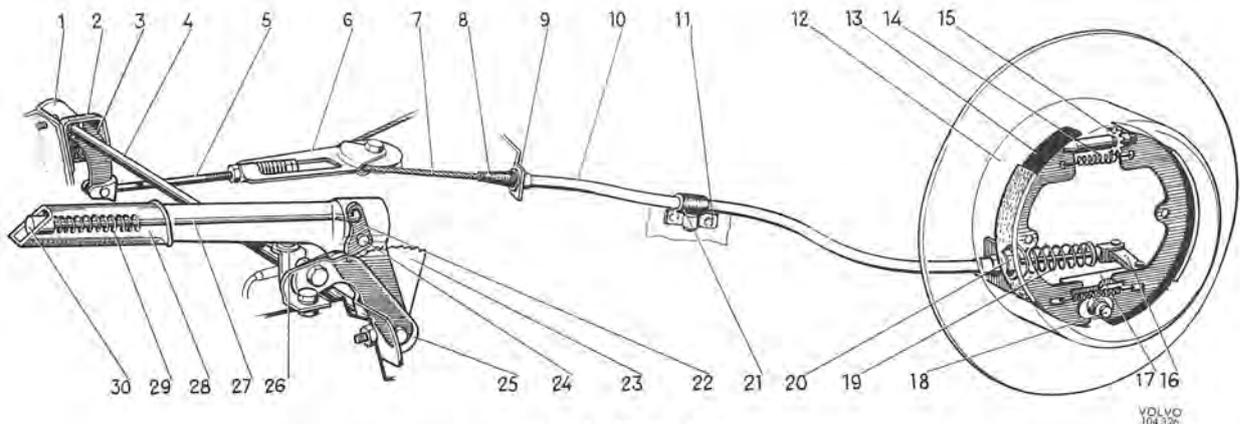

Fig. 5-78. Parking brake
The construction of the parking brake is shown in Fig. 5-78. The parking brake lever is mounted on the floor on the outside of the driving seat. The movement of the lever is transmitted via the shaft (4), lever and pull rod (5) to the pulley (6). From here the movement is transmitted through the cable (7) to the rear wheel brake units. At each rear wheel, the movements of the cable influence the lever (16), which is carried in a movable rod (17) on the brake shoes. The lower ends of the brake shoes are held pressed against the anchor bolt (18) by the lower spring. The upper ends are jointed through the adjusting devices (15) to which
4. Remove the rubber cover (8, Fig. 5-78) for the front attachment of the cable sleeve and the nut as well as the attachment for the rubber suspension ring on the frame member. Remove the cable from the other side of the attachment in the same way.
2. Remove the split pin and stretch the cable so that the pull rod (5, Fig. 5-78) can be removed from the lever.
5. Unscrew the button (30, Fig. 5-78) and remove the spring (29) from the parking brake lever. Remove the rivet (24) and take out the push rod (27) and the pawl (22).
6. Fit the new parts in the reverse order, see Fig. 5-78. Make sure that the rivet is firmly fixed but does not obstruct the movement of the pawl. Lubricate the bushes with a thin coat of ball bearing grease. Do not forget to lock the pull rod and make sure that the rubber covers seal well.